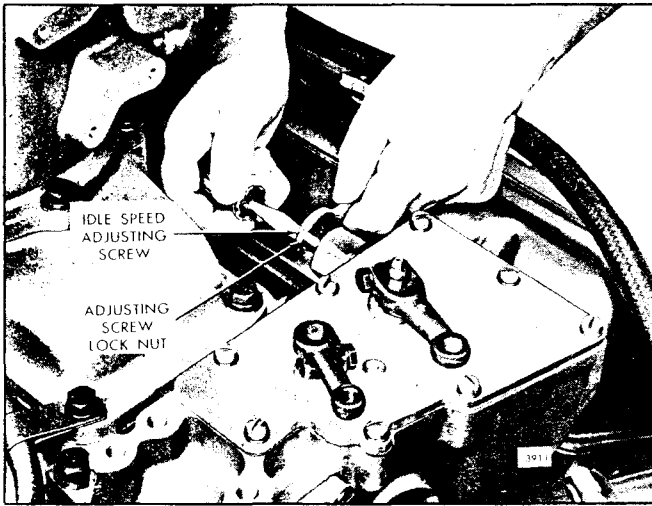

Fig. 13 - Adjusting Engine Idle Speed
3. Start the engine and loosen the idle speed adjusting screw or lock nut, if used. Then adjust the idle screw (Fig. 13) to obtain the desired idle speed.
1. With the engine running at normal operating temperature and with the buffer screw backed out to avoid contact with the differential lever, turn the idle speed adjusting screw (Fig. 13) until the engine idles at the recommended idle speed. The recommended idle speed is 400-600 rpm, but may vary with the engine application.